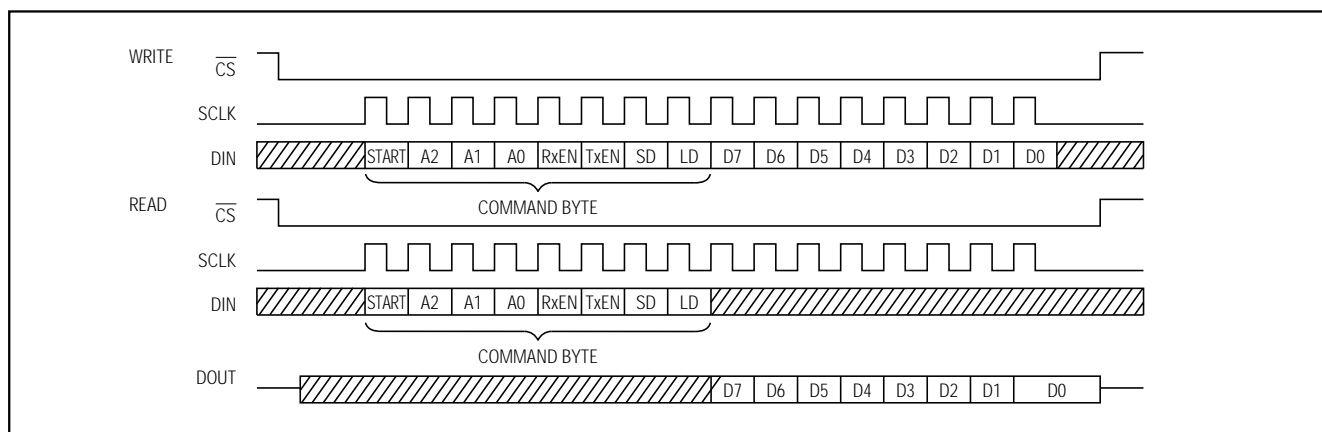

Figure 4d. Serial-Interface Timing
The command byte (Figure 4d) consists of three address bits (A2, A1, A0), two power-mode bits (RxEN, TxEN), a shutdown control bit (SD), and a load data bit (LD). Table 1 lists the address and data-byte definitions.